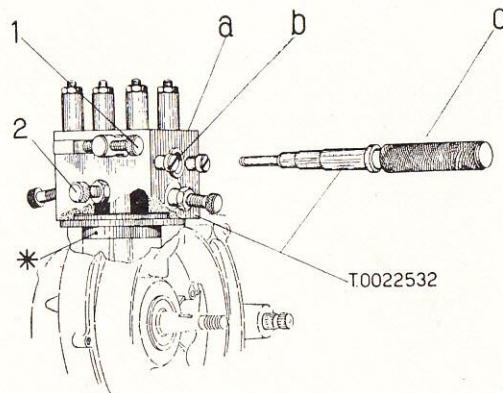

Fig. 84.
1. Centralize and lock the con. rod as said underneath by means of fixture T. 0022532 shown in Fig. 84.
Centralize and lock the con. rod by means of tool T. 0021175 provided with the new part No. 27 in place of part No. 11 marked with an asterisk in Fig. 84. Besides that, use new part, T. 0021175/22 in place of part "a" of Fig. 84. taking however all screws and other small parts from the latter.